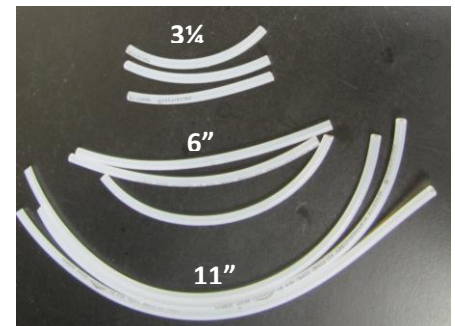

Figure 12
11. The contents of TDF67 Enzyme Tubing Replacement Kit shown in Figure 12.